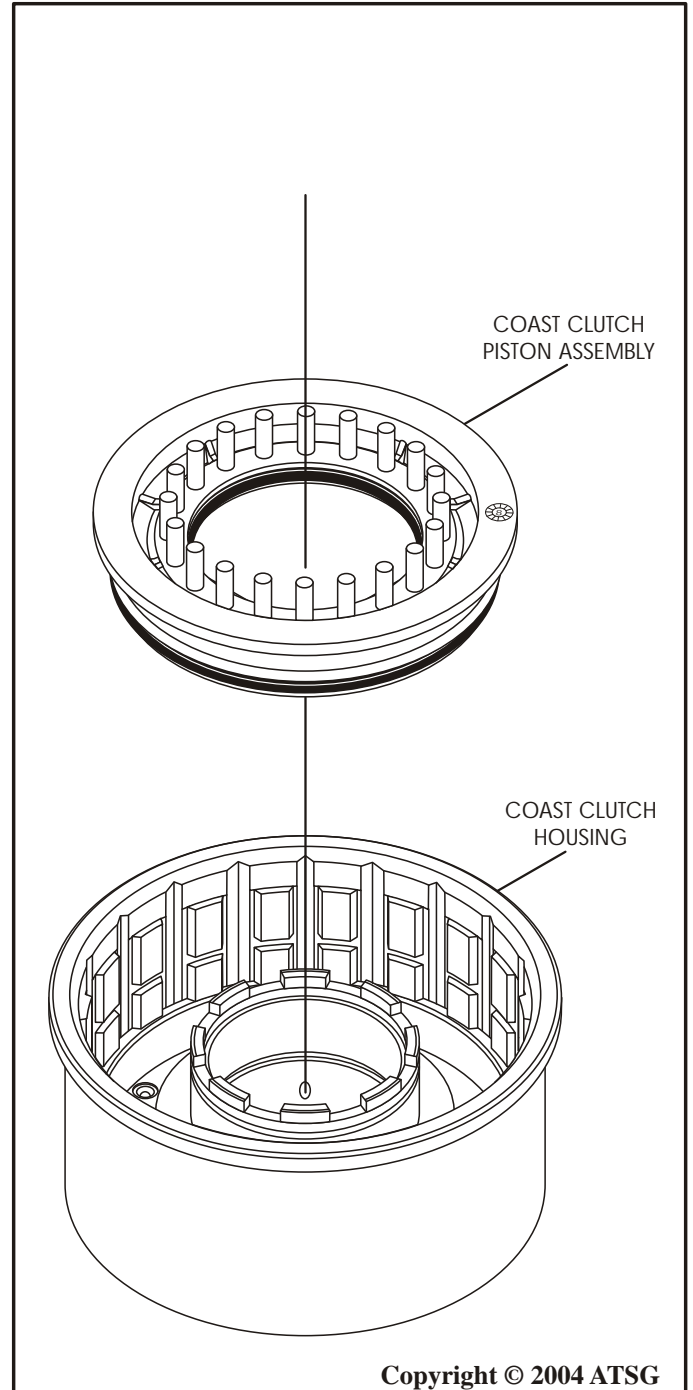

Figure 68
9. Install the completed coast clutch piston into the overrun clutch housing with twisting motion, as shown in Figure 68.